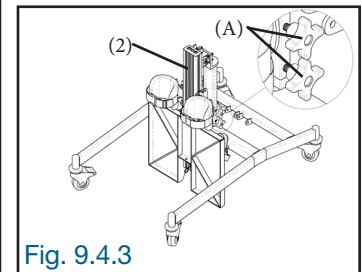

Fig. 9.4.3
9.4.3 Tighten the knobs (A) on the frame (2) firmly (Fig. 9.4.3).